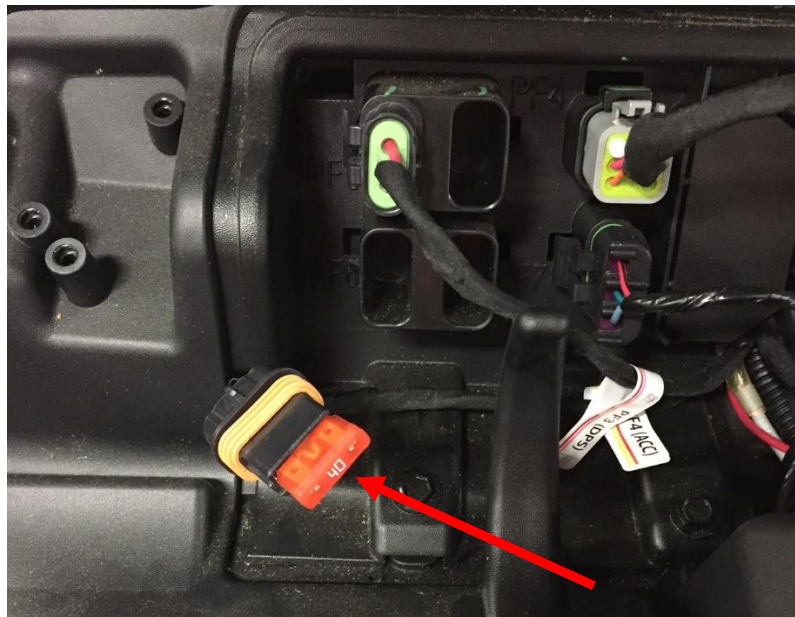
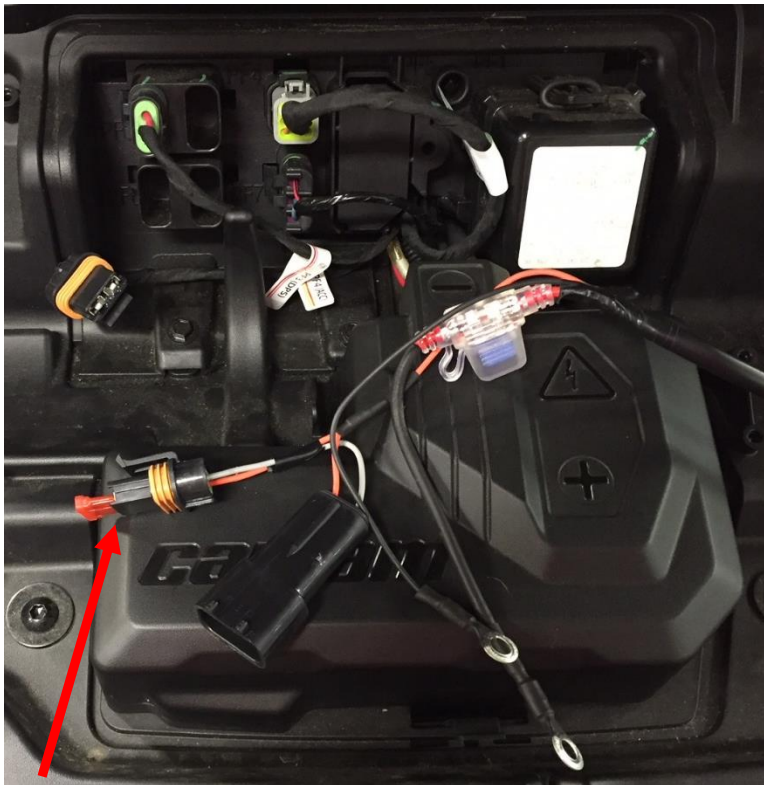

Figure 28: Factory fuse and fuse holder.
Figure 29: Place the fuse into the chassis harness connector.
25. Remove the 40 amp fuse from the factory fuse holder and place into the matching connector on the chassis harness. See Figure 28 and Figure 29.